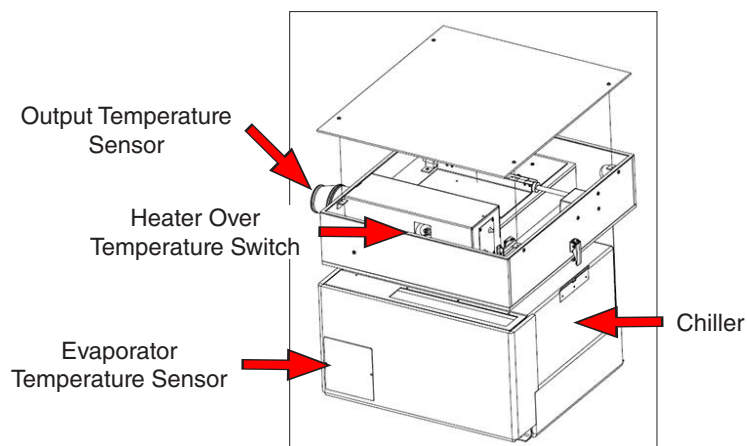

Figure 8.15d: Schematic showing temperature control devices.
- Internal temperature sensors and switches maintain accurate Air Preconditioner operating conditions (Figure 8.15d).